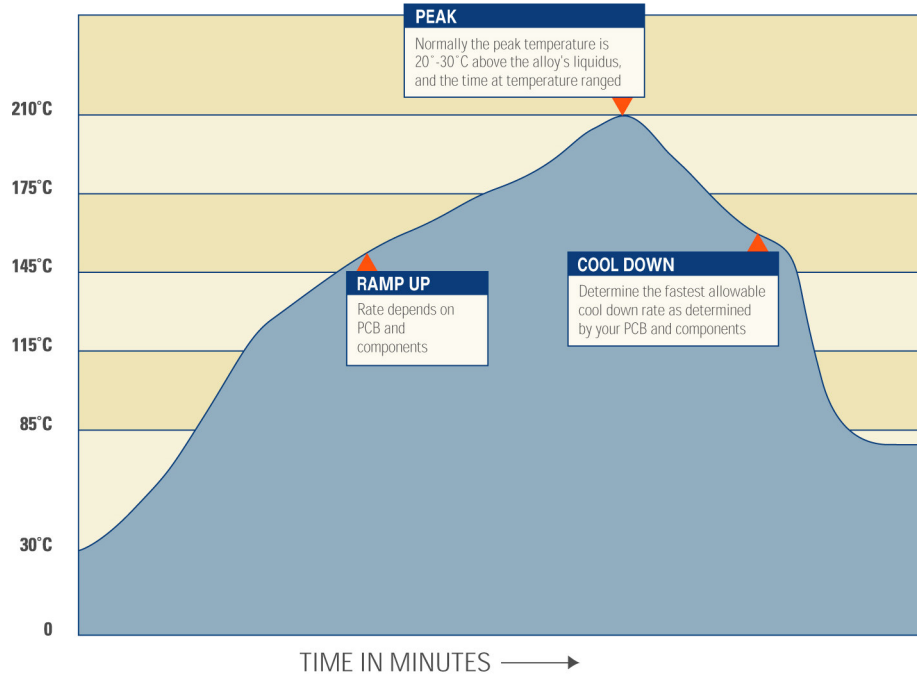

Fig. 11a
- 9.1.7 See Figure 11a for sample profile.